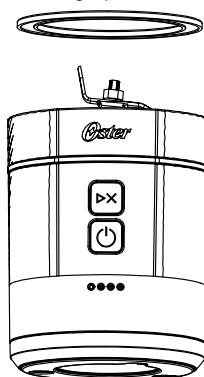

Figure 7
- Ensure the silicone seal is inserted on the motor base (Figure 7), and the flat surface of the silicone seal should be facing upward.